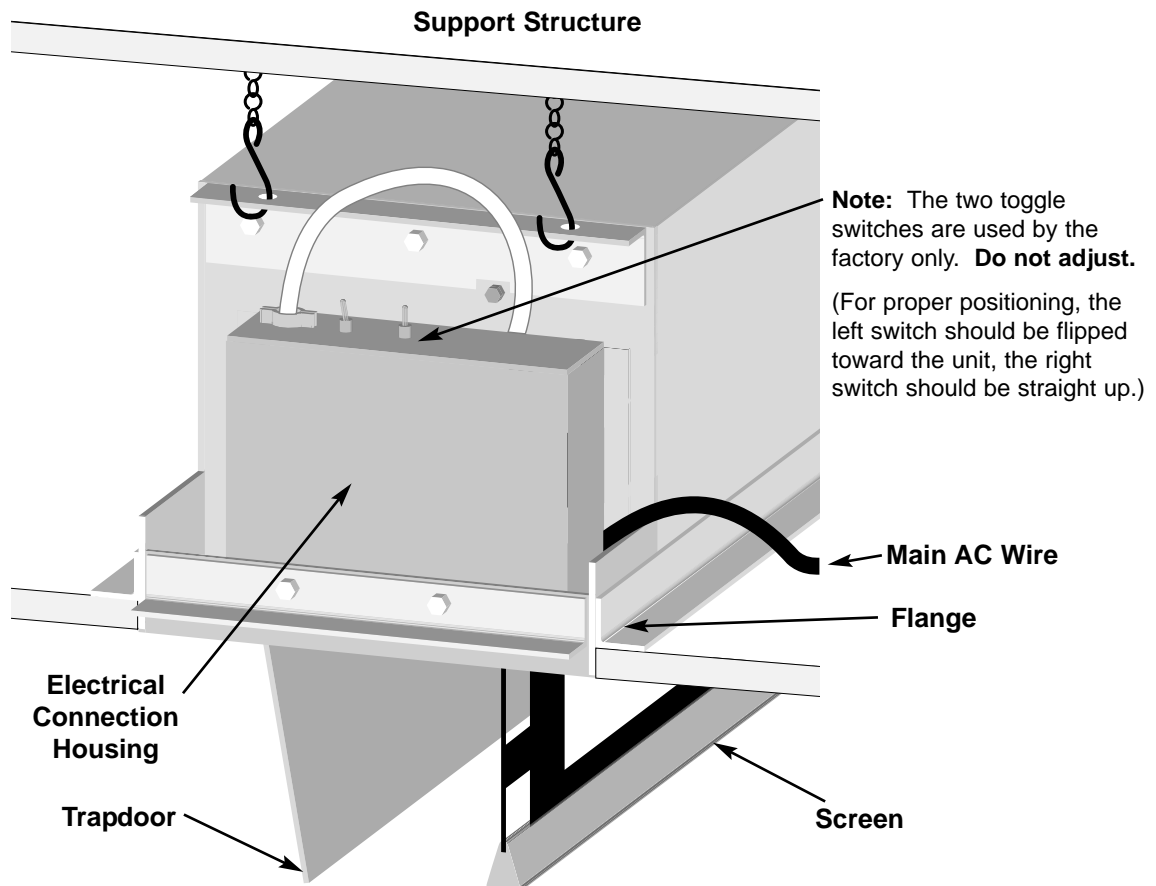

Figure 1: ABT Electriscreen-side view
3. Drywall or other ceiling material may be screwed directly to the ceiling flanges on the case. Refer to Figure 1.